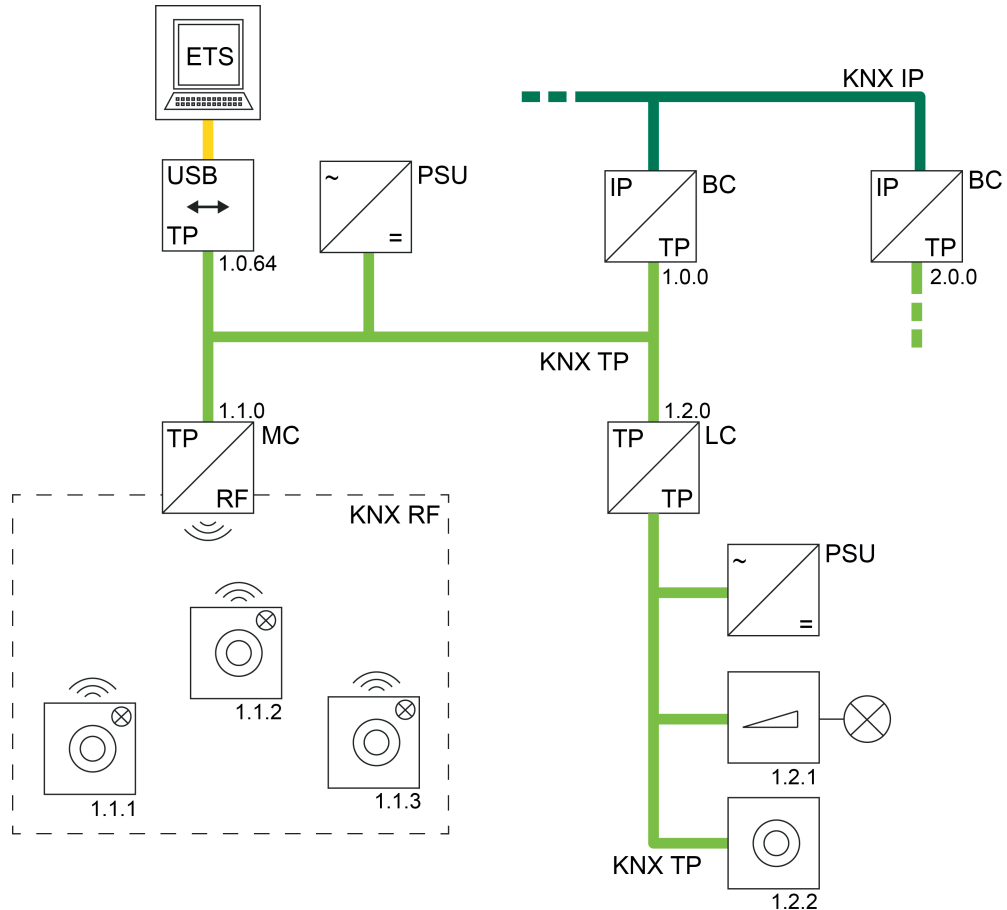

Figure 24: Example of a possible KNX topology with a KNX TP USB data interface
- Use of a KNX TP USB data interface (figure 24):